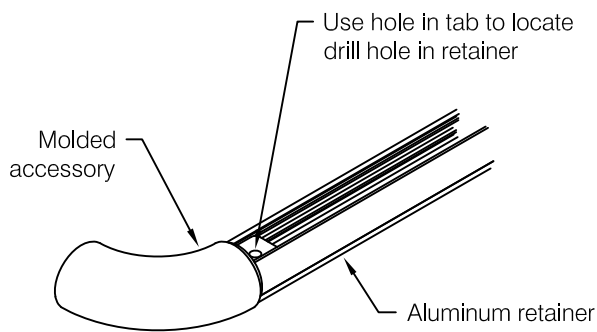

fig 3
Step 5 Insert molded accessories into end of retainer, press firmly to ensure molded part is seated squarely against the end of the retainer. Drill accessory mounting holes using the accessory as a template, see **fig. 3**.